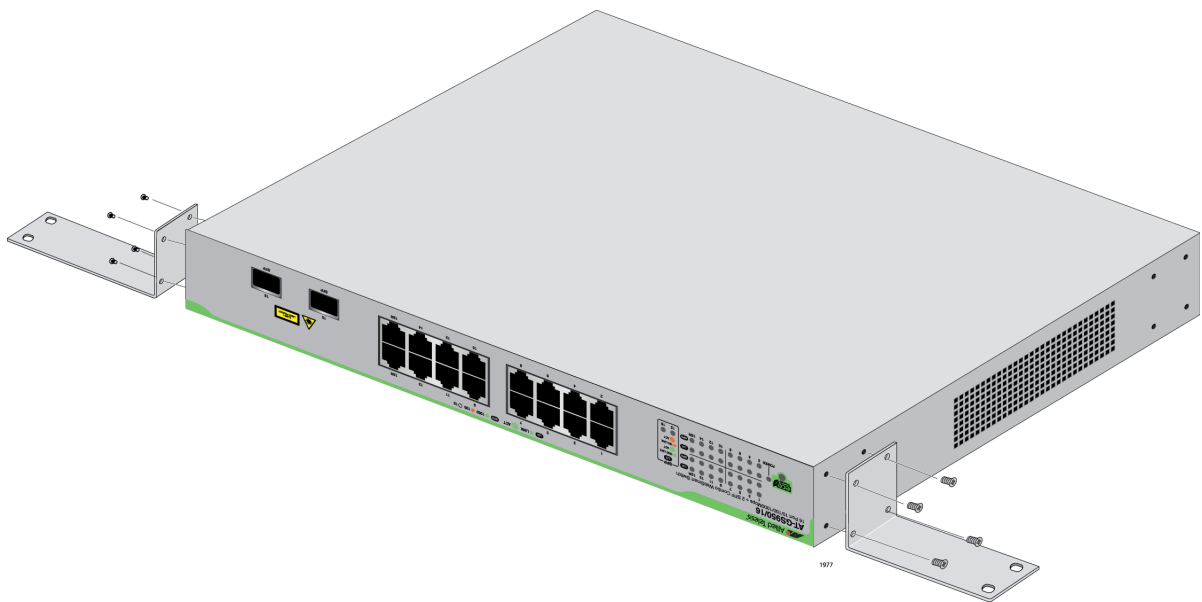

Figure 9. Attaching the Brackets to Install the Switch on a Wall
3. Orient the brackets against the sides of the switch as shown in Figure 9, and secure them to the unit with the eight brackets screws included with the switch.